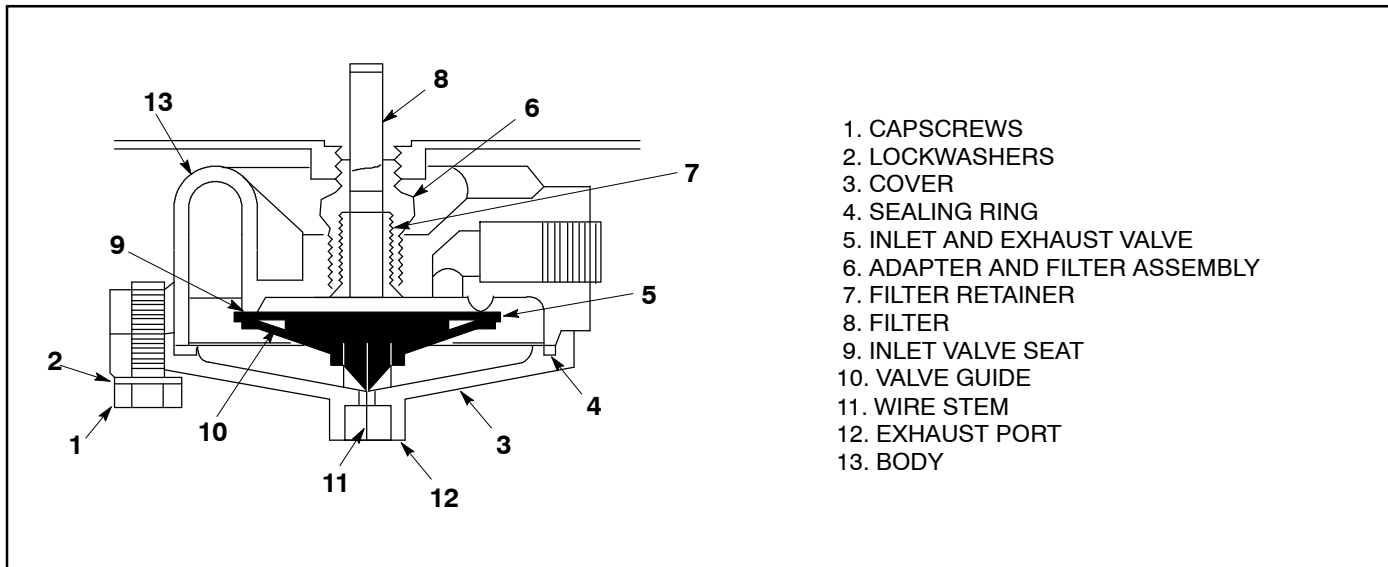

Figure 15-2. Automatic Drain Valve
1. Remove the four capscrews (1), Figure 15-2, and lockwashers (2).
2. Remove cover (3) and sealing ring (4).
3. Remove inlet and exhaust valve (5).
4. Remove adapter and filter assembly (6).
5. Remove filter retainer (7) and filter (8).
1. Apply a light film of grease on the inlet valve seat (9, Figure 15-2).